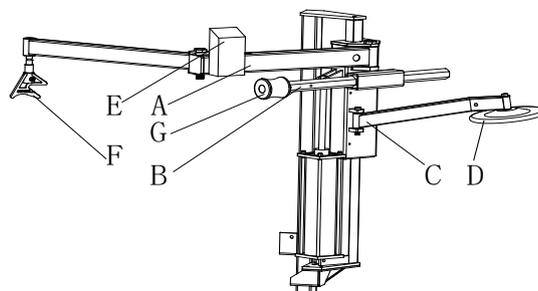

Fig 12
- 4) Install the Rotating arm (A)、 Hexagonal horizontal arm (B) and Tire lifting roller support (C) separately on the tire changer;(Fig 12)
- 5) Install the tire lifting roller (D)、 the switch (E)、 tire pressing head (F) and tire pressing roller(G) separately on the tire changer;(Fig 12)
Fig 12 shows functional parts to the 006 device: